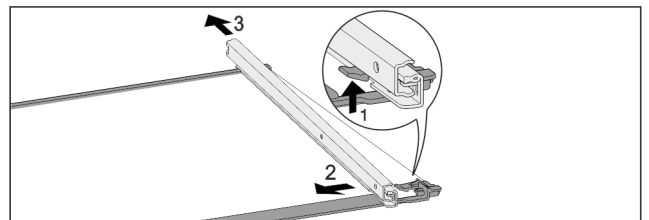

Fig. 104 Glass shelf with rails
- ▶ Push up front click-in hooks. Fig. 104 (1)
- ▶ Move the pull-out rails to the side Fig. 104 (2) and to the rear Fig. 104 (3).